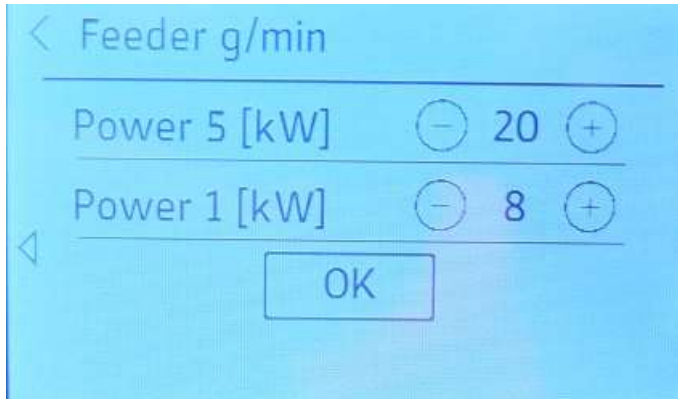

Figure 3
2. Press the right arrow on the display to the next menu in which you confirm the change with OK button. See below Figure 3. This procedure should you do if you change your pellets quality..